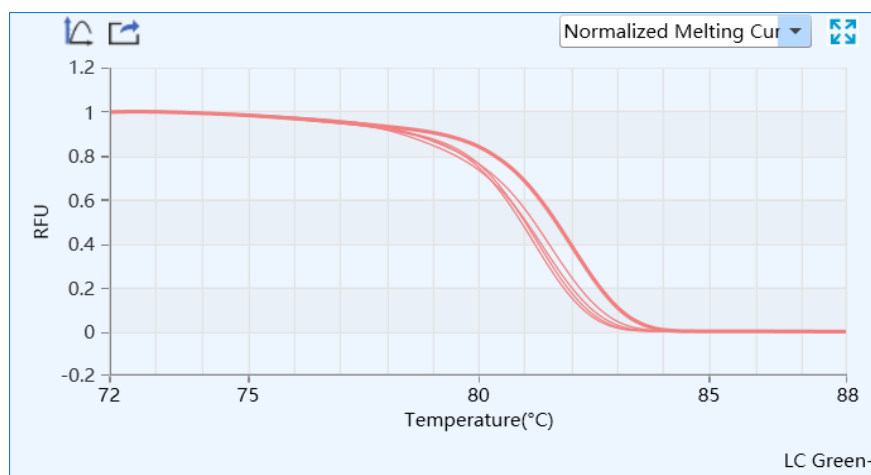

Figure D-14.2. HRM Analysis Interface - Normalized Melting Curve Functional Module
**II. Normalized Melting Curve:** display the normalized melting curve according to the normalization method and fluorescence normalization settings, as shown in figure D-14.2. For more details, please refer to D-3.3.4.4 High Resolution Melting - High Resolution Melting Analysis Setting.